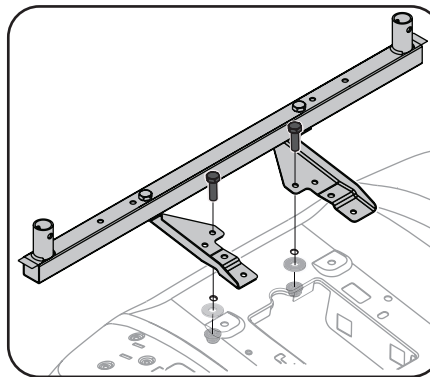

Figure 3-2
4. Use two Hex Head Capscrews (710-0376), two Washers (736-0159), and two Nuts (712-04063) to install the Support assembly on rear of tractor as shown in Figure 3-2.